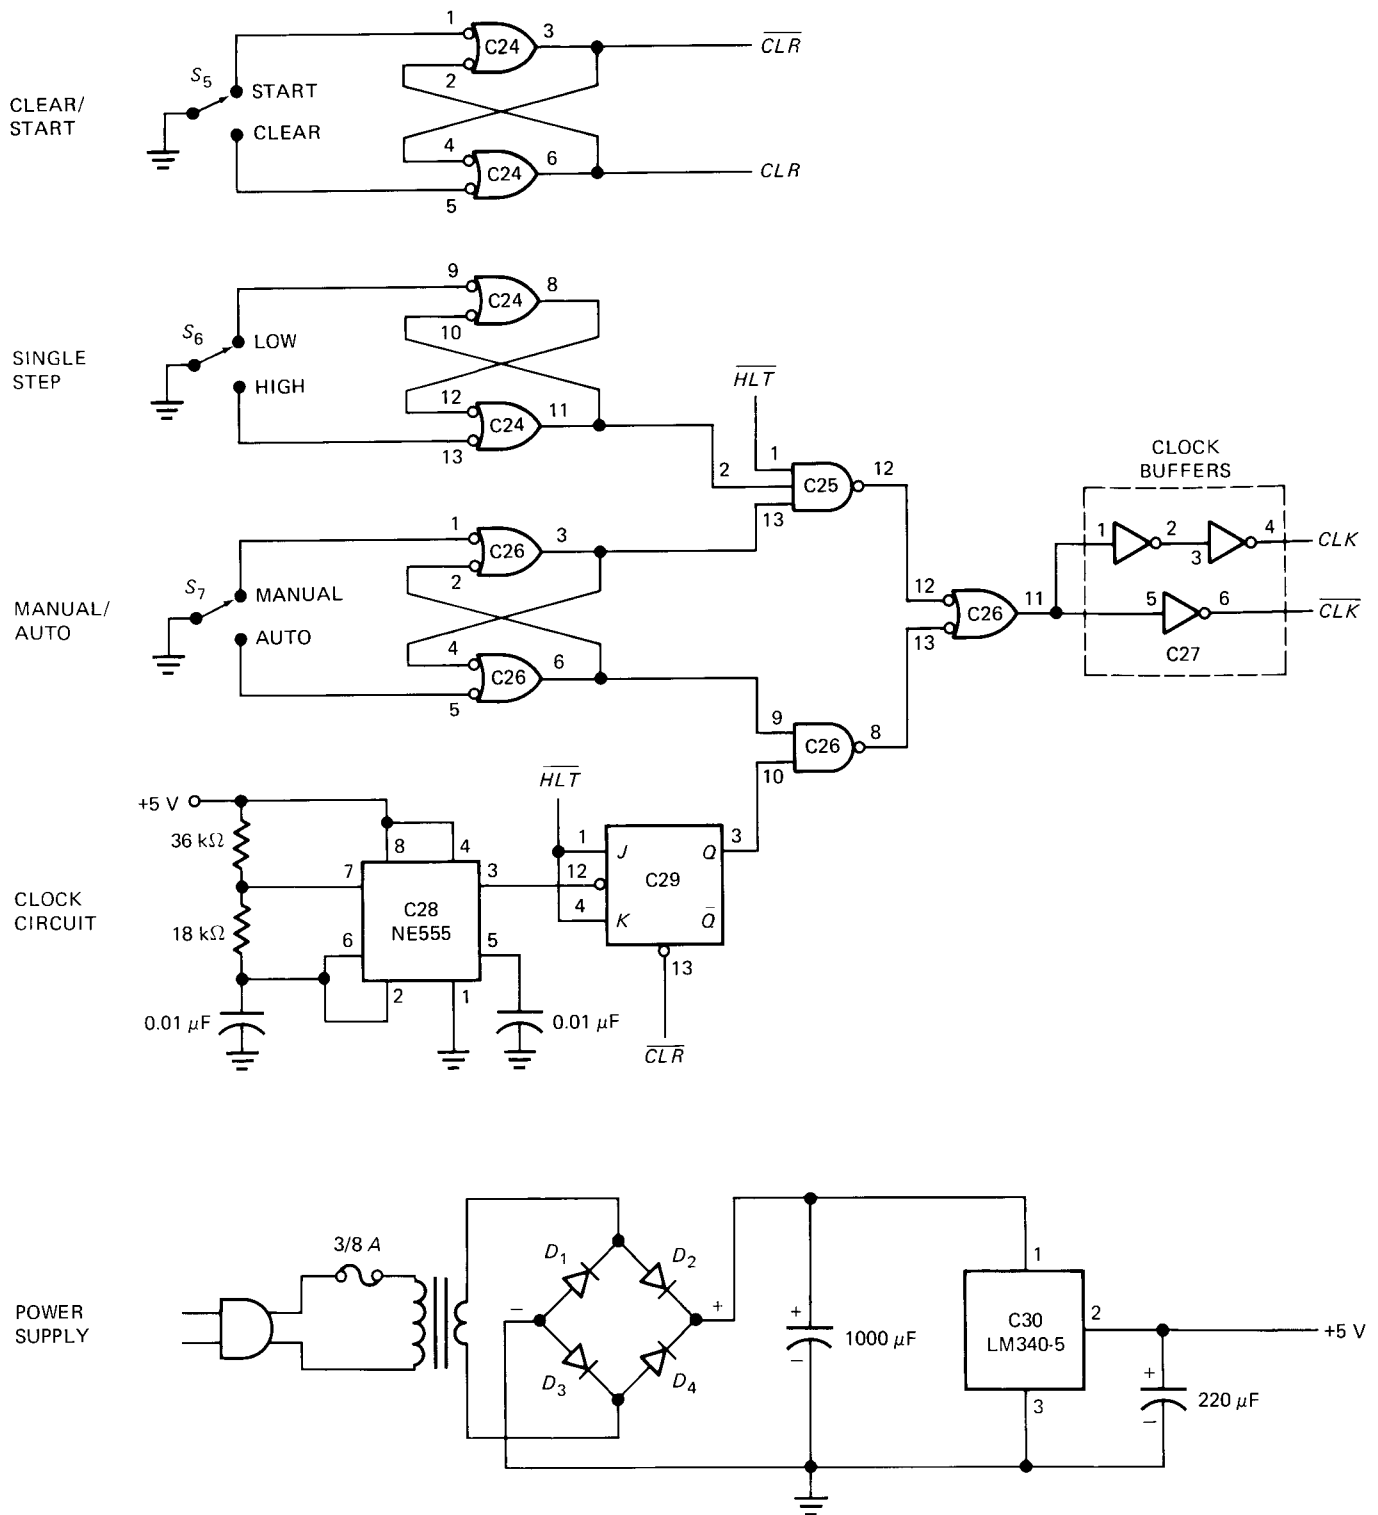

Fig. 10-22
- 10-11.** Answer the following questions for Fig. 10-22: